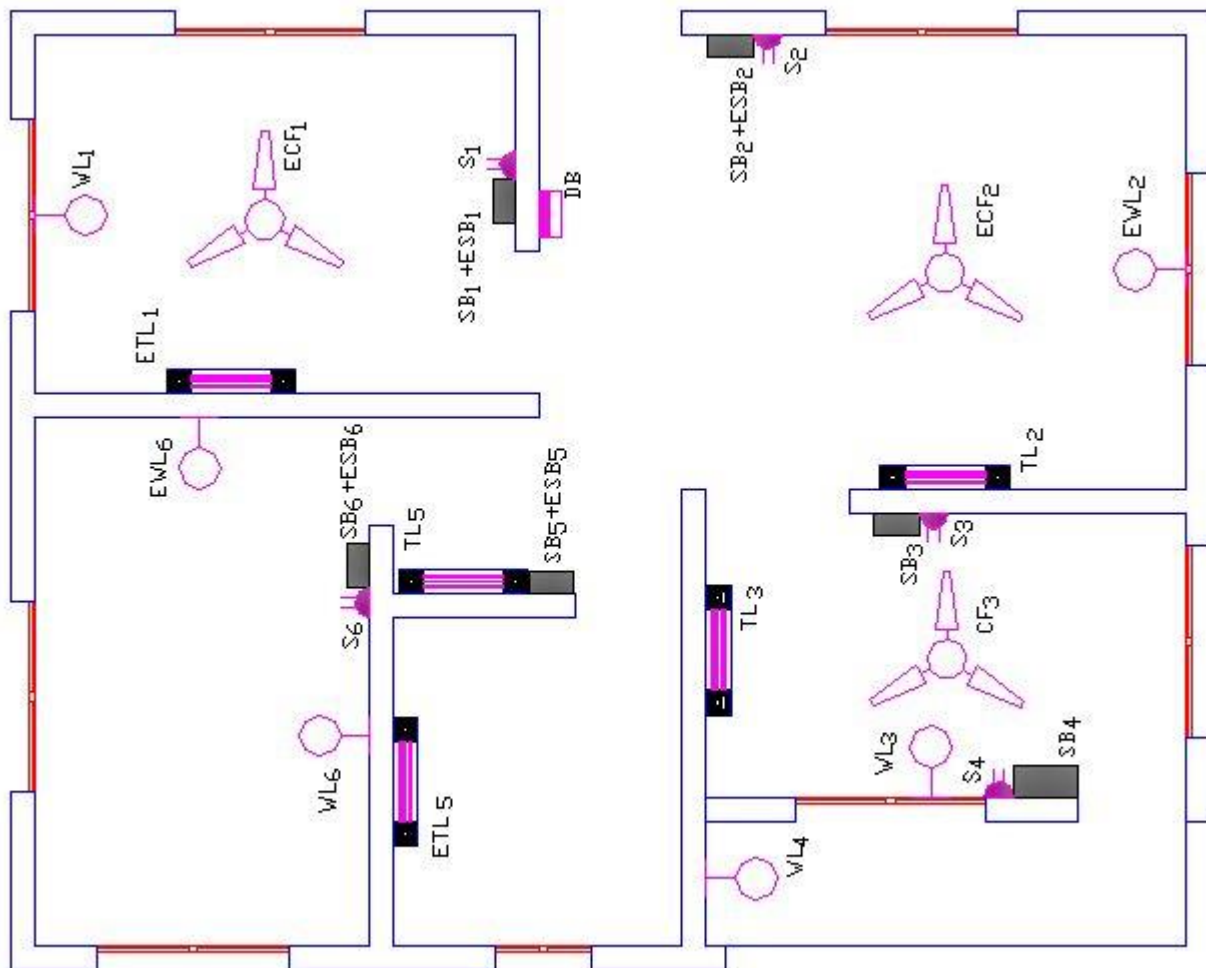

Fig. 7.1: Symbols inserted in the 25'00"x20'00" flat
- Insert FAN.dwg and make 4 copies. Put them in 2 bedrooms and dining room as shown in Figure.7.1.